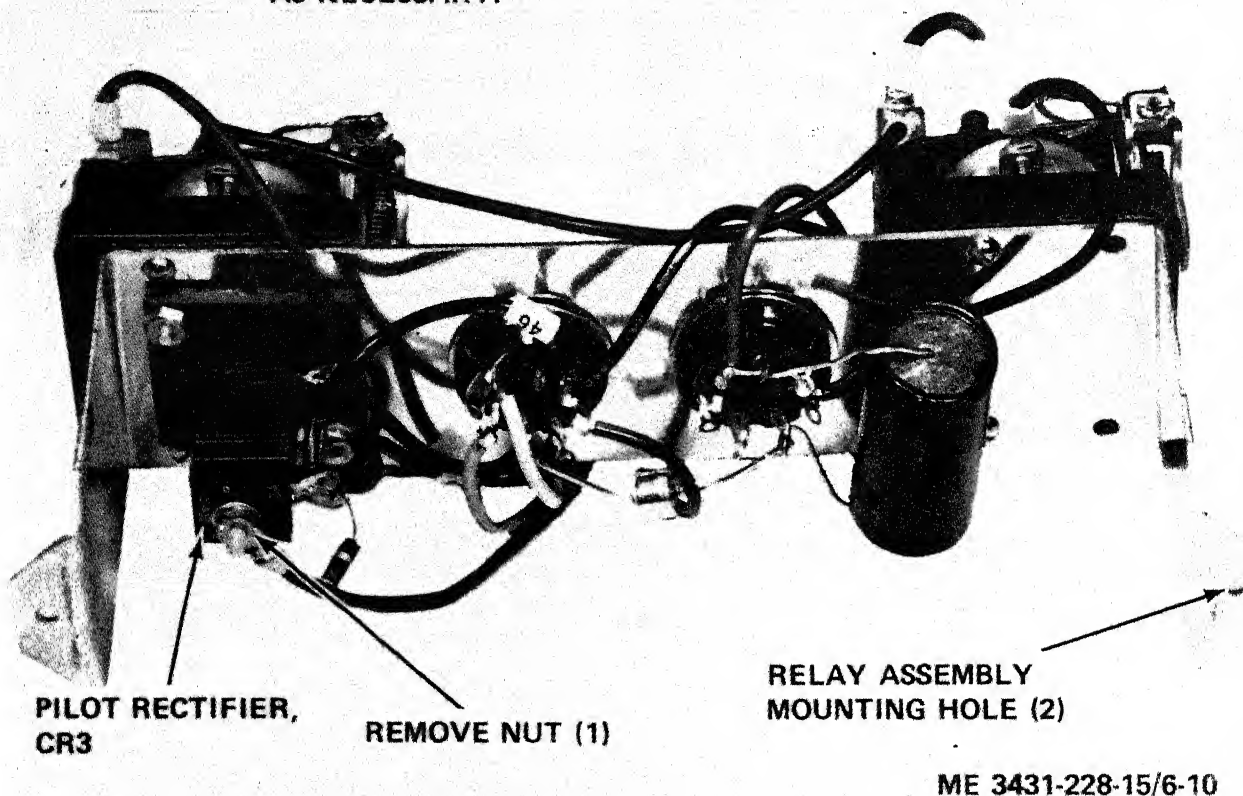

Figure 6-10. Pilot rectifier CR3, removal and installation.
(3) Refer to figure 6-10 and remove pilot rectifier CR3.
(1) Refer to figure 6-10 and install pilot rectifier CR3.